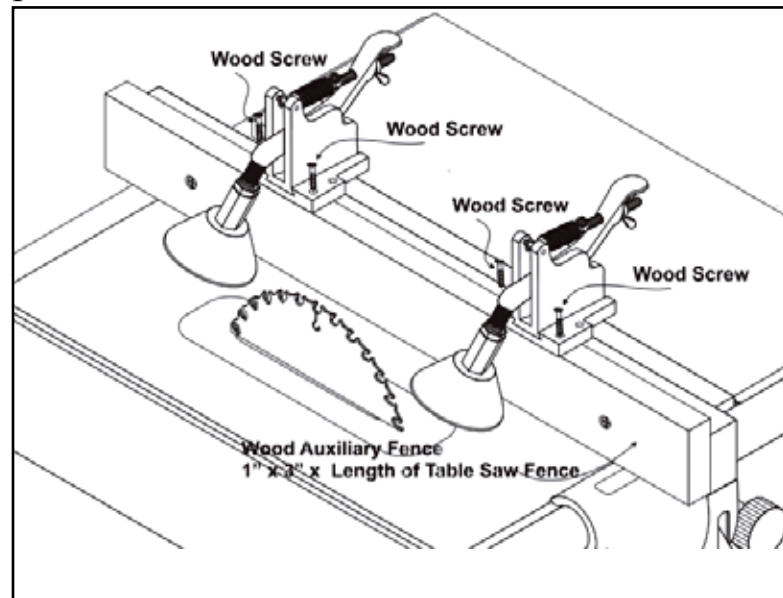

Figure 5.
Option 1 install your BOARD MATES using a auxiliary wood fence. Figure 5
3. Position the Board Mate on the auxiliary fence so it does not protrude into the path of the stock. See Figure 5
6. Mark the FRONT screw hole locations and drill the pilot holes into the wood fence for the wood screws (REAR holes are not used in this mounting option). See Figure 5.
1. Install 1/4" T-Track on the top edge of the table saw fence closest to the table saw blade using metal screws. Figure 5